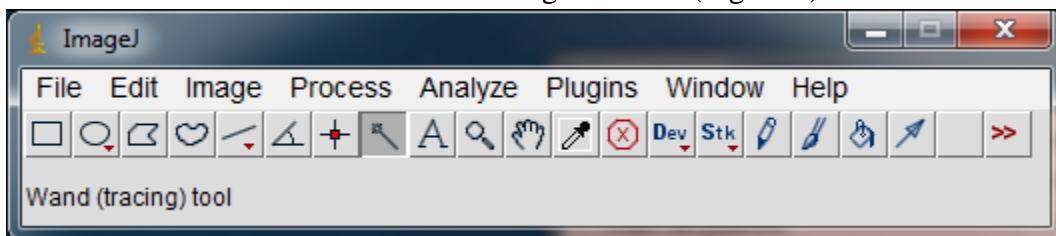

Figure 8. Choose the Wand tool to highlight each peak of interest on the profile plot.
13. When each peak has been closed off at the base with the **Straight Line** selection tool, select the **Wand** tool from the ImageJ toolbar (Figure 8).